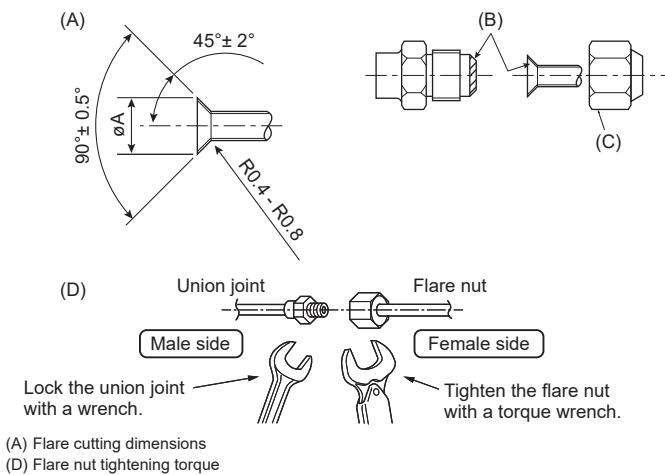

Fig. 4-1
(A)(Fig. 4-1)
(D)(Fig. 4-1)
4.2. Connecting pipes (Fig. 4-1)
- Apply thin layer of refrigerant oil to pipe and joint seating surface before tightening flare nut. (A)
- Use 2 wrenches to tighten piping connections. (D)
- Apply refrigerating machine oil over the entire flare seat surface. (B)
- Use the flare nuts for the following pipe size. (C)